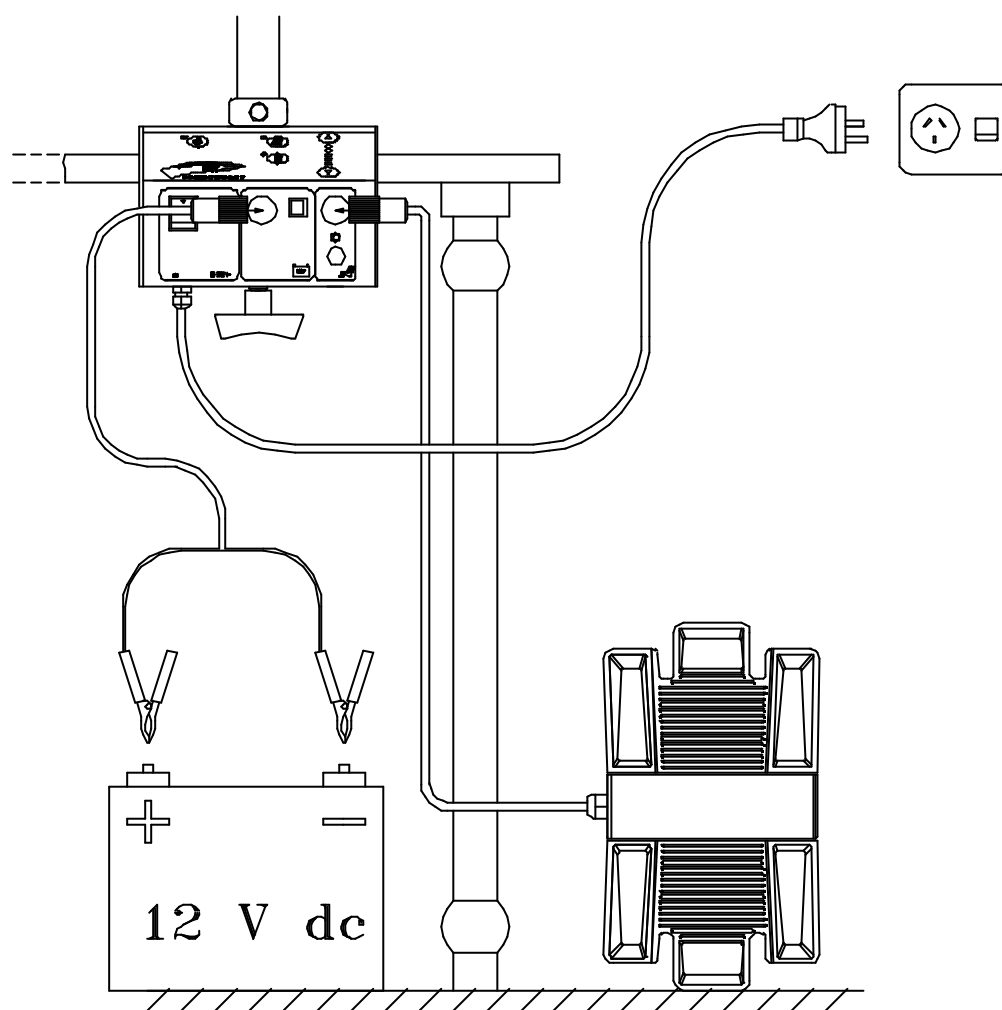

Figure 6 Connecting power cables and foot controls
The Scan Optics Ophthalmic Microscope may be connected to either an earthed mains (90-260V) ac supply, or a 12V dc supply, or both. The power supply will automatically select the correct mains voltage. If both ac and dc supplies are connected, the dc supply (for example, a 12V battery) will act as an emergency backup for mains power. In this case, the microscope will not run from battery power unless the mains supply fails or falls by more than 20 percent, or is switched off. If mains power is restored, the microscope will resume using mains power automatically. The mains power switch on the microscope does not switch the battery off. Refer to figure 6.
1. If the power supply is to be connected to a 12-volt dc supply, remove the battery cable from the case and connect the cable to the 12-volt connector on middle of the front panel on the power supply. Refer to figure 6.
1. Remove the foot control from the case and plug the cable into the socket on the right side of the front panel of the power supply. Refer to figure 6.